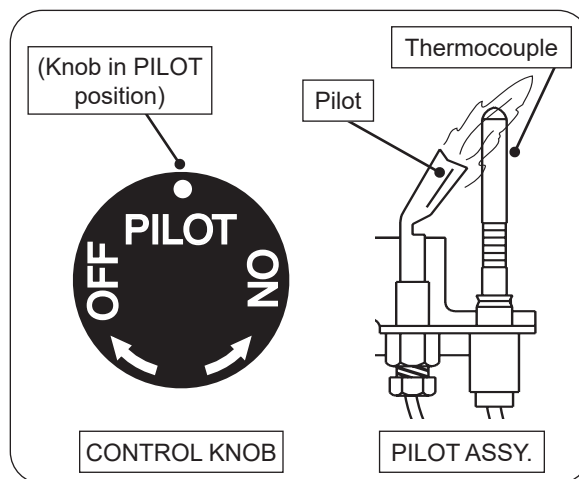

Fig. 33-1 Pilot lighting
3. Locate the pilot assembly on the side or rear of the burner pan (see Fig. 33-1).
4. Turn the control knob counterclockwise to **PILOT**. Push the knob **firmly and fully** in and hold. Hold a lighted long-stem match/ long-necked butane lighter near the thermocouple to light the pilot. Continue to hold the knob in for about one (1) minute after the pilot is lit. Release the knob and it will pop back out. The pilot will remain lit. See Fig. 33-1. If it goes out, repeat steps 2-4.